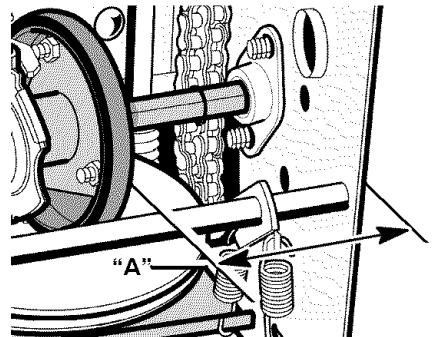

Figure 39
7. Note the position of the **friction wheel** (see Figure 39). The correct distance "A" from the right side of the **friction wheel** to the outside of the motorbox is as follows:
3. Move the **friction wheel** to the correct position (see Figure 39).